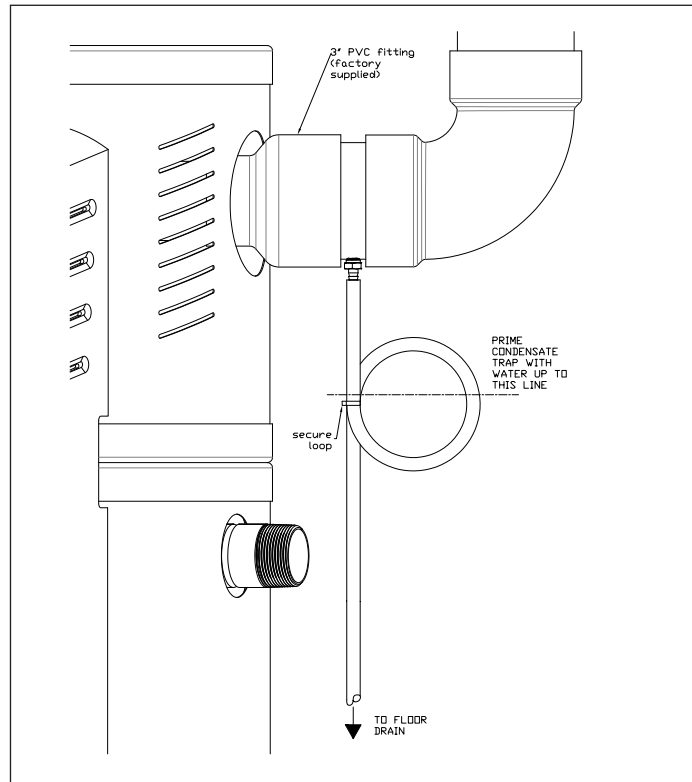

Figure 22: Optional Condensate Drain on Air Intake Piping
- Drill a 3/8" diameter mounting hole through the bottom of the 3" PVC pipe (section of pipe shown in Figure 22). Make sure the hole is located at the absolute lowest point on the horizontal pipe.